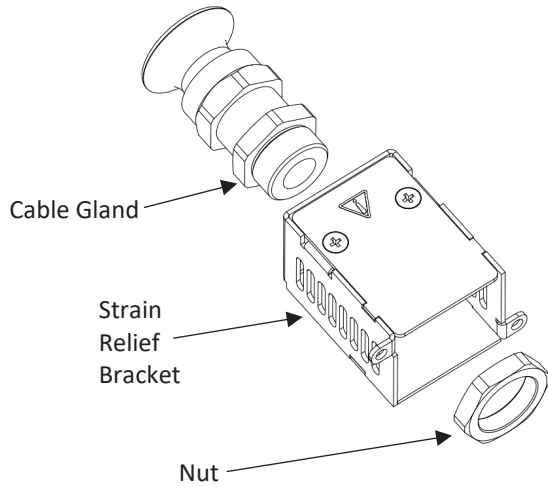

Figure 4-18: Insertion of the Plastic Nut into Strain Relief Bracket
2. Insert the Cable gland into the Strain relief bracket Assembly as shown in Figure 4-18.